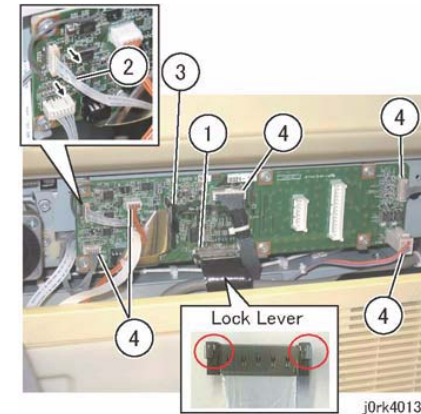

Figure 2 IIT PWB Connectors
3. Disconnect the connectors that are connected at the rear side to the IIT PWB. (Figure 2)